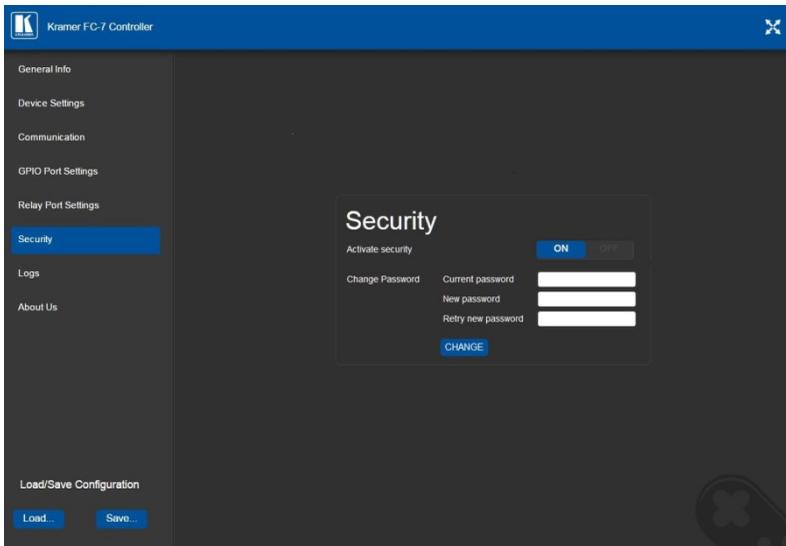

Figure 23: Security Activated Page
5. Wait until the Web UI has reloaded. Click the Security page button. The page show in Figure 23 is displayed.